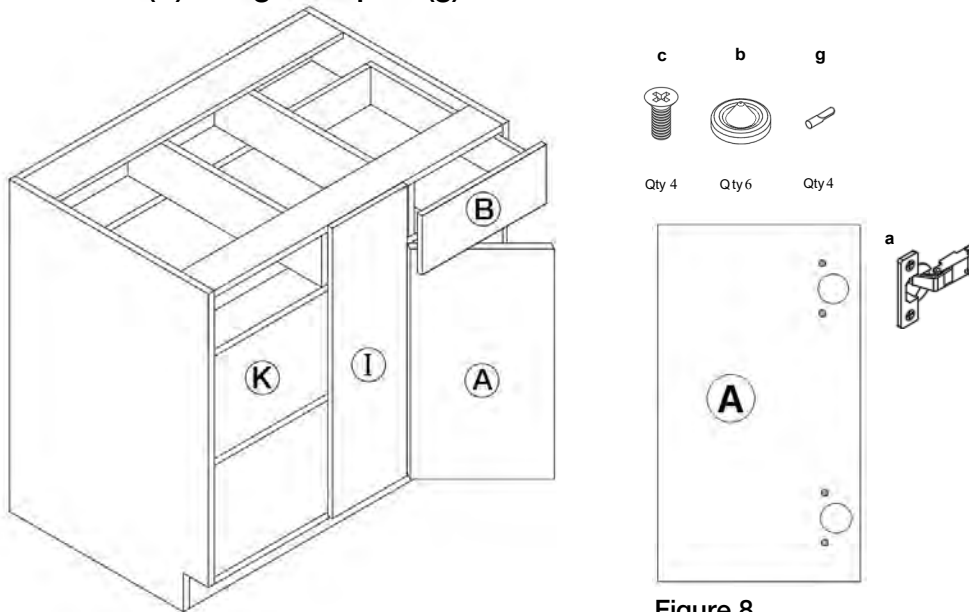

Figure 8
8. Install hinges (a) onto door (A) into designated hinge holes (Figure 8) using screws provided (c). Install door onto cabinet center stile by connecting the hinge to the pre-installed base plates. Apply bumpers (b) onto the door and drawer face corners. Install the adjustable shelf (K) using shelf pins (g).